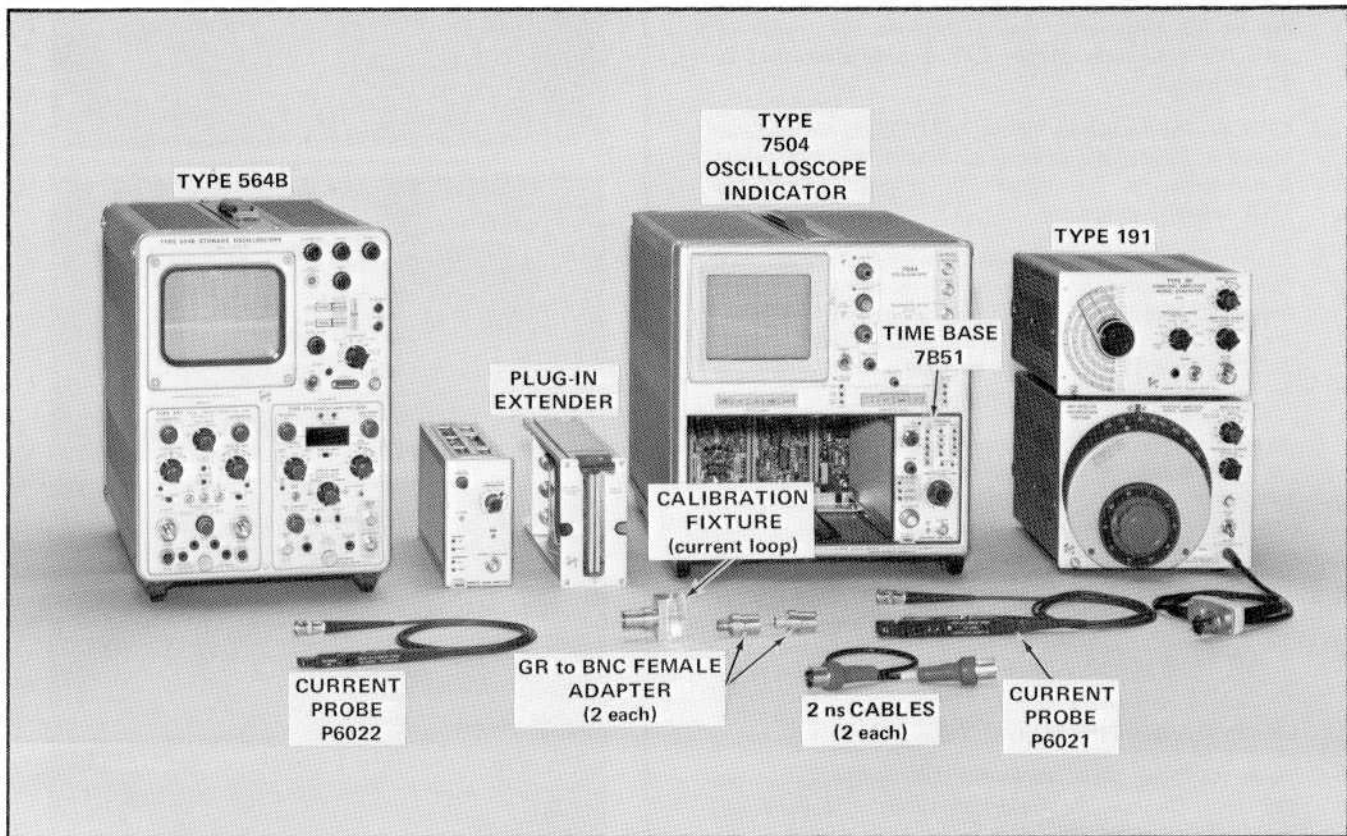

Fig. 5-8. Test equipment required for Step 14 and 14a.
- a. Test equipment setup is shown in Fig. 5-8.